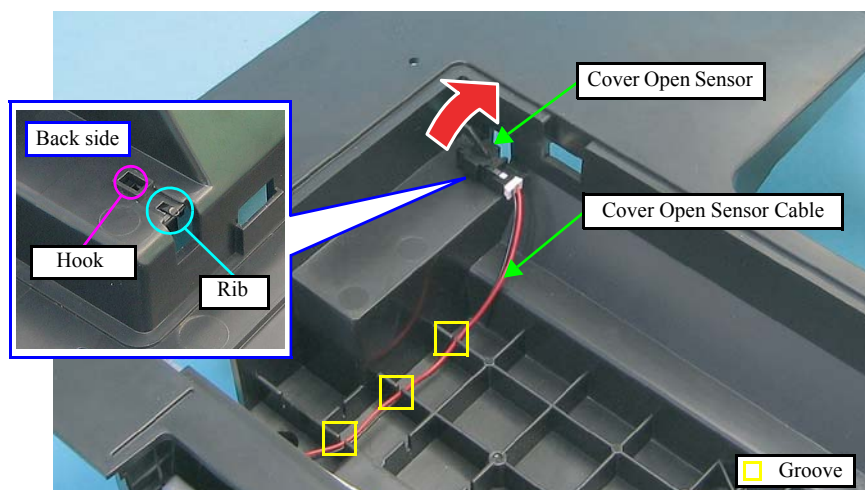

Figure 4-13. Removing the Cover Open Sensor
- Route the Cover Open Sensor cable through the grooves (x3) of the Upper Housing as shown in Figure 4-13.
- When installing the Cover Open Sensor, insert the rib of the Sensor into the Upper Housing and secure it with the hook as shown in Figure 4-13.